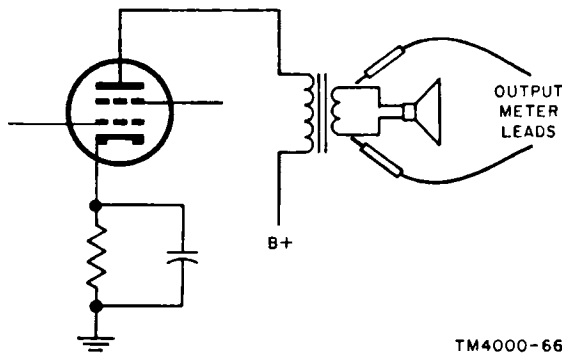

Figure 80. Signal voltage measurement at the voice coil.
b. If the level at the detector is not strong enough to give a good reading on the dc scale on the multimeter, an output meter, or the multimeter connected as an output meter by using the ac scale, may be connected to the audio output circuit. The meter test leads are connected to the voice coil (fig. 80).